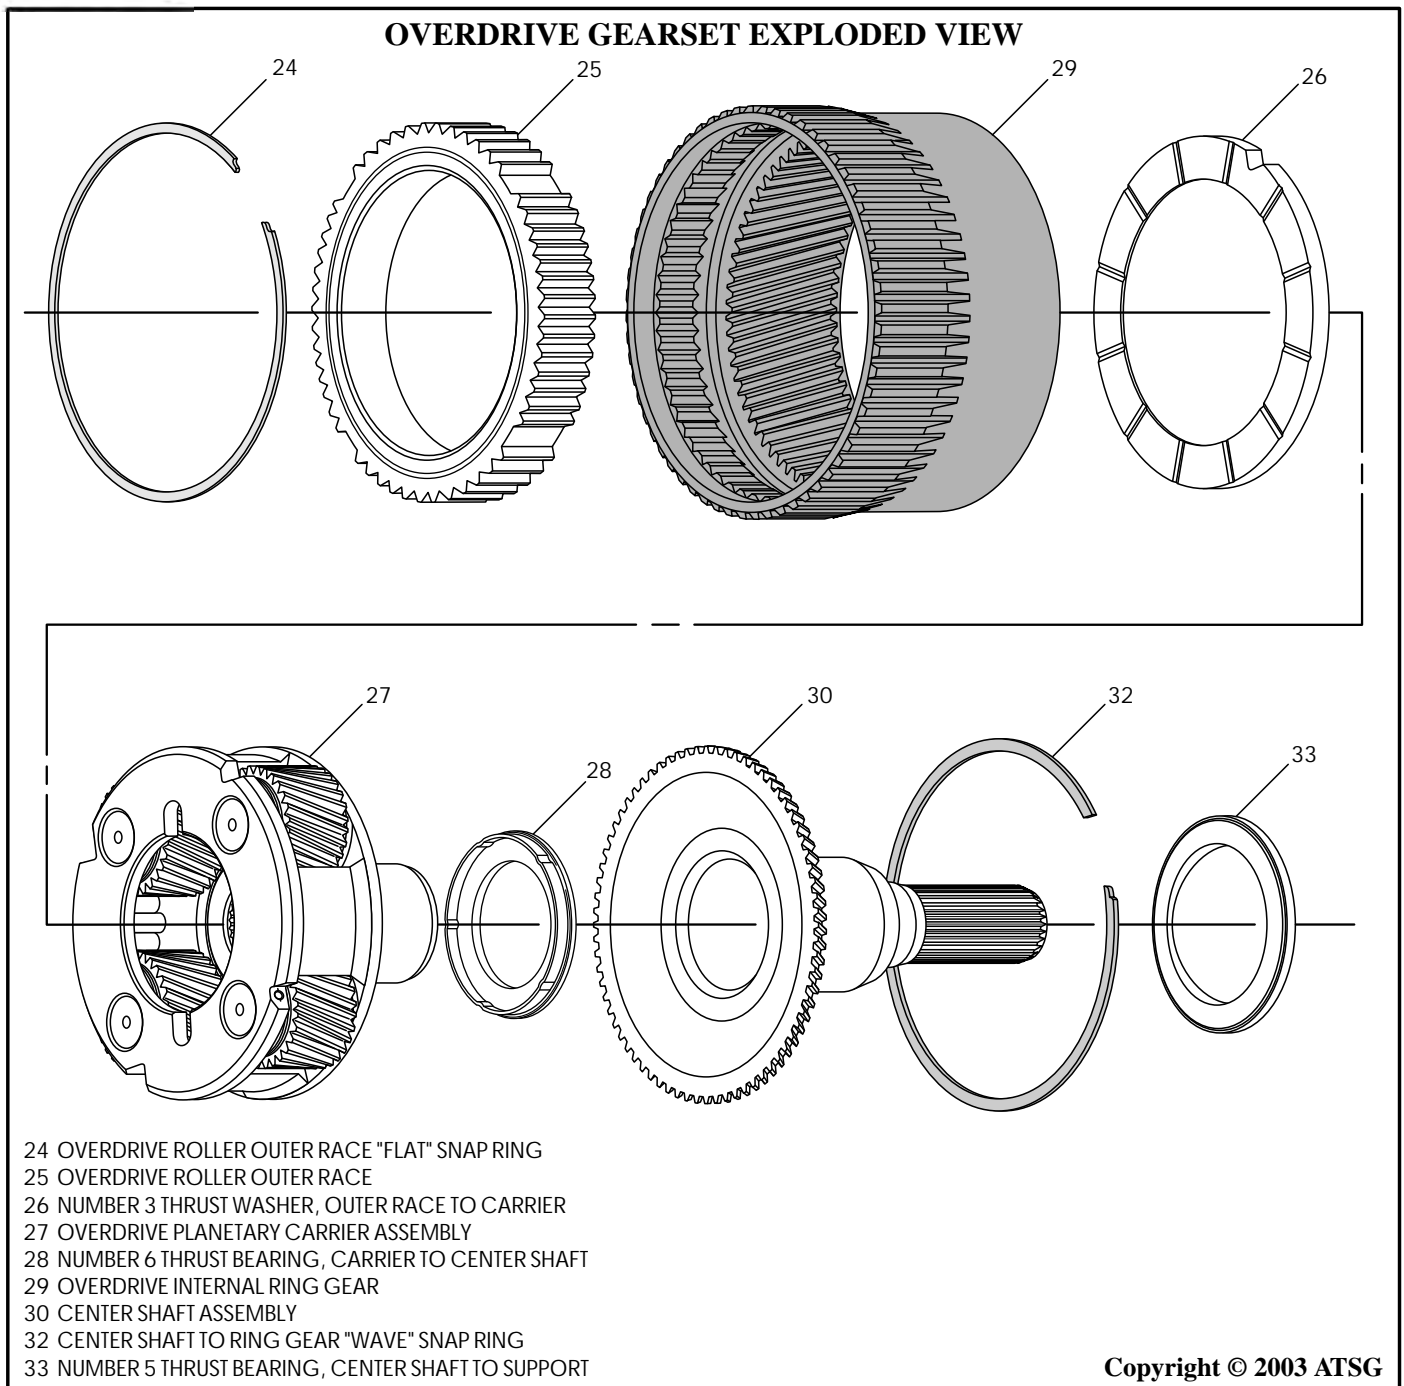

Figure 140
1. Disassemble overdrive gearset using Figure 140 as a guide.